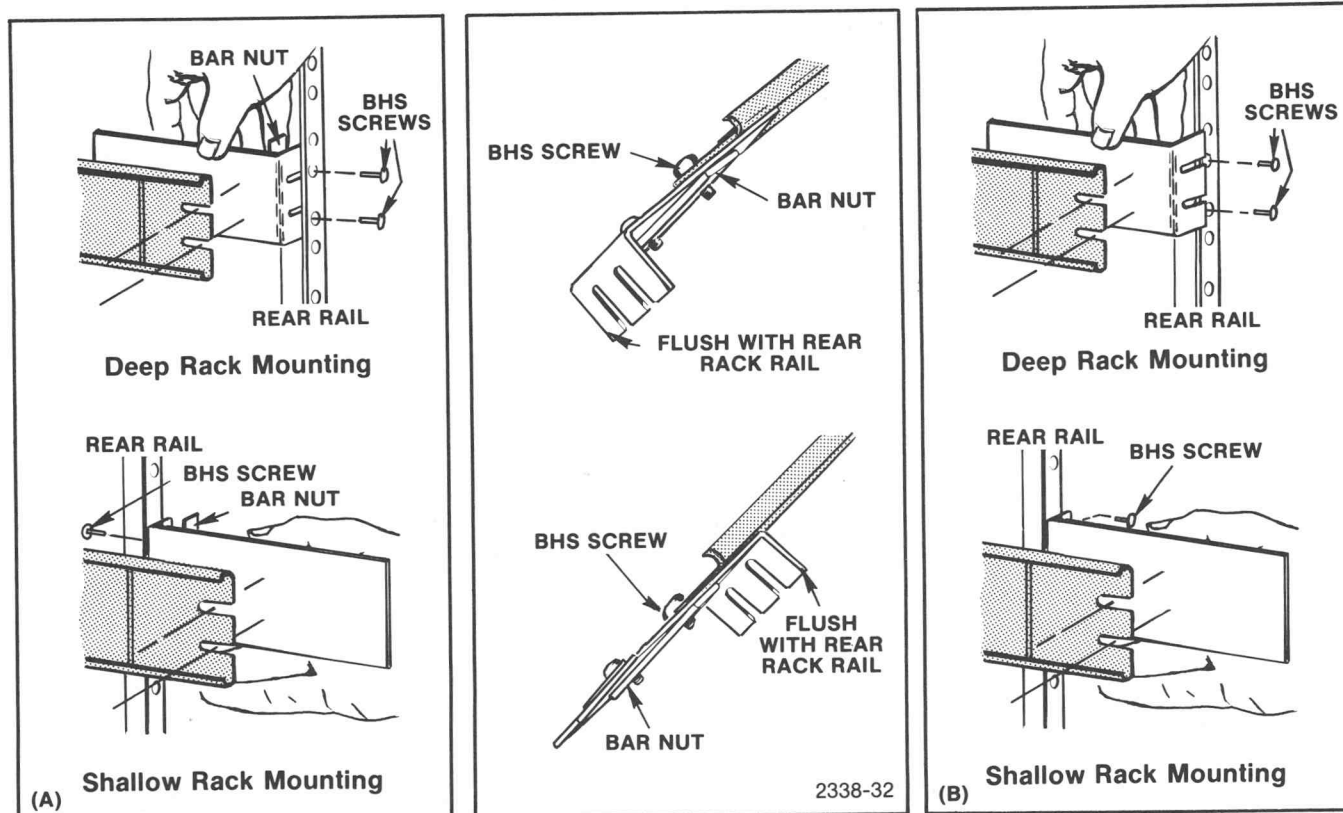

Fig. 5-14. Rear bracket mounting. a. Deep rack. b. Shallow rack.
3. Mount the rear mounting bracket to the rear rack-rails. Align the bracket with the stationary section and secure to the rear rail in either of the methods shown in Fig. 5-14. The flange can be mounted either in front of or behind the rear rack-rail using the bar nut or tapped rails. Use pan head screws.
4. Attach the stationary section to the mounting bracket, with a bar nut on the outside of the bracket, and flat head screws (FHS) (see Fig. 5-14).